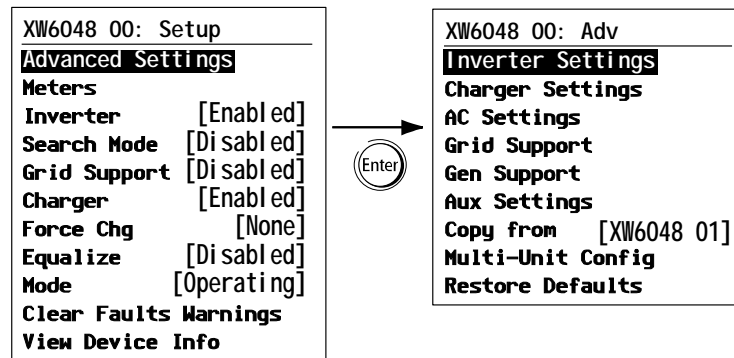

Figure 3-2 Selecting Advanced Settings
- ◆ From the Setup menu, with Basic Settings or Advanced Settings highlighted, press Enter. See Figure 3-2.